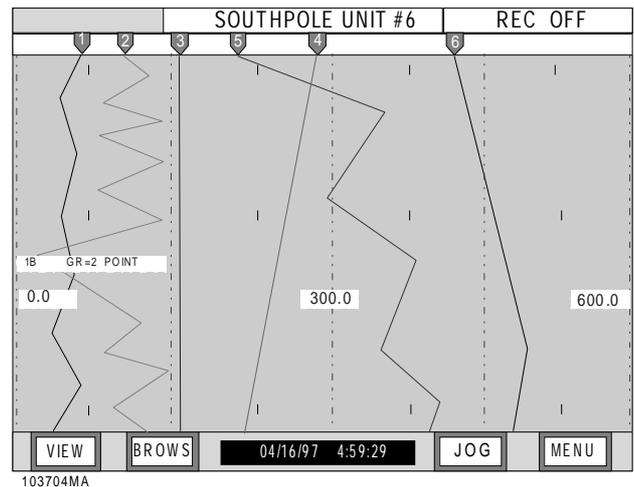
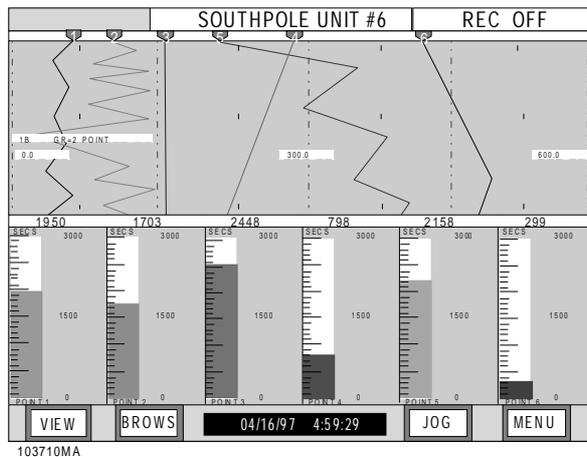
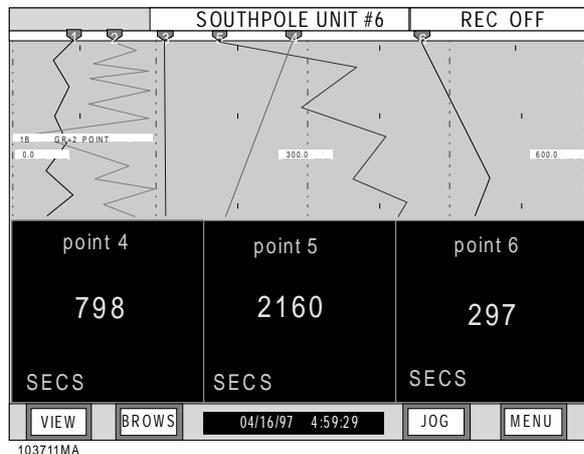

Figure 3-8 Chart Paper & Pens View
Figure 3-13 Split Screen With Chart/Pens at Top and Vertical Bargraphs On Bottom
Figure 3-14 Split Screen With Chart/Pens at Top and Digital Blocks at Bottom
There is a marker on top of the pen pointers to indicate which pens reference the current scale. Thus when interpreting the data for pens 1 and 2 use a value of 0 to 600 full scale. When the scale changes, so will the markers on the pen pointers to indicate the pens for the next scale. Also along the top of the chart are the scale UNITS. Figure 3-8 depicts a typical "Chart Paper and Pens" view.
6. Split Screen With Chart/Pens At Top and Vertical Bargraphs On Bottom - The next view, when scrolling through the views, is a split screen showing all of the attributes of Figures 3-8 and 3-9. This view is shown in Figure 3-13.
7. Split Screen With Chart/Pens at Top and Digital Blocks at Bottom - This next view, when scrolling through the views, is a split screen showing all of the attributes of Figures 3-8 and 3-11. Only three of the Digital Blocks are shown (last three). This view is shown in Figure 3-14.